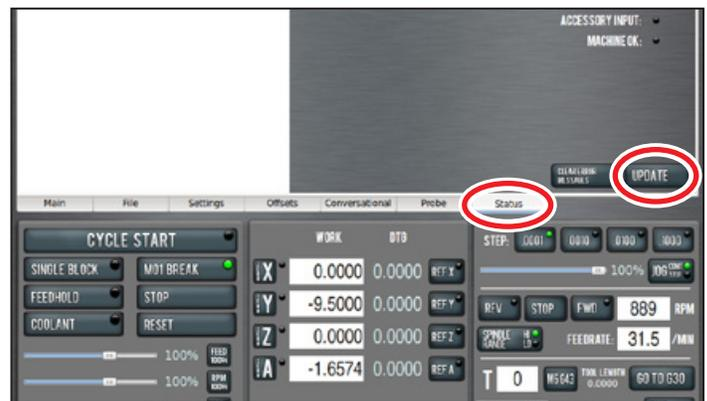

Figure 1
4. From the PathPilot interface, on the **Status** tab, select **Update** (see **Figure 1**).